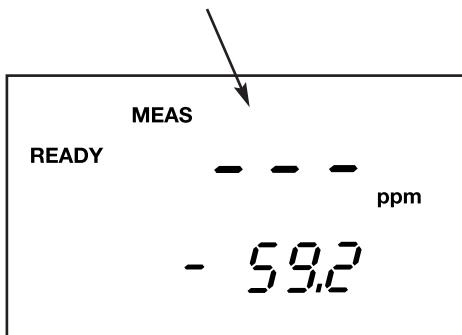

Figure 31
2. Press **MODE** to select ion measurement mode. If the meter has not been previously calibrated in the Ion mode, the display will read " - - - " in the primary display —See Figure 31.